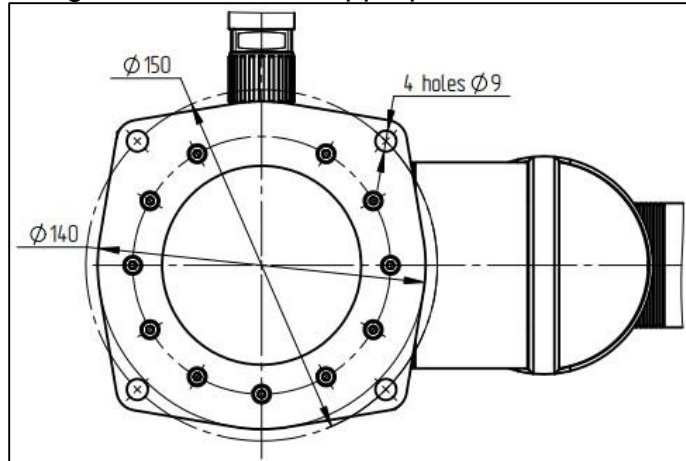

Figure 2-1: Mounting the arm by Method 1
- Insert 4 M8 bolts into the four 9-mm dia. holes on the transition plate (see **Figure 2-1**) and tighten the bolts as appropriate.